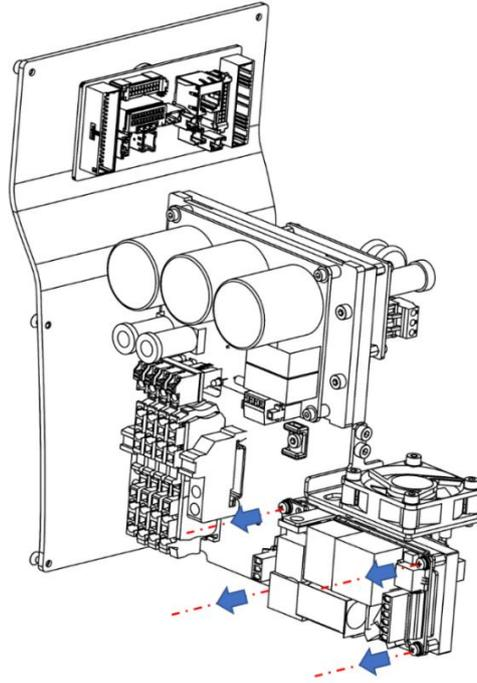

Figure 5-17 Removal of power module
- Step 3** Use the cross screwdriver to remove the combination screws from the switching power supply and take out the switching power supply, as shown in Figure 5-17.